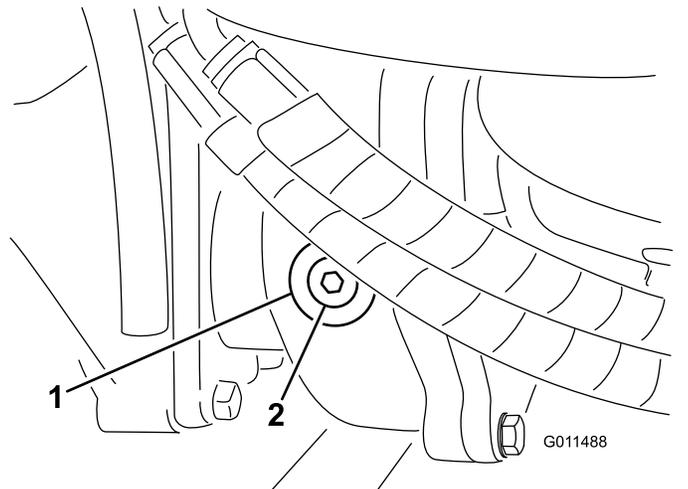

Figure 87
2. Remove the check/fill plug from the left side of the gear box and ensure that lubricant is up to the bottom of the hole (Figure 87).